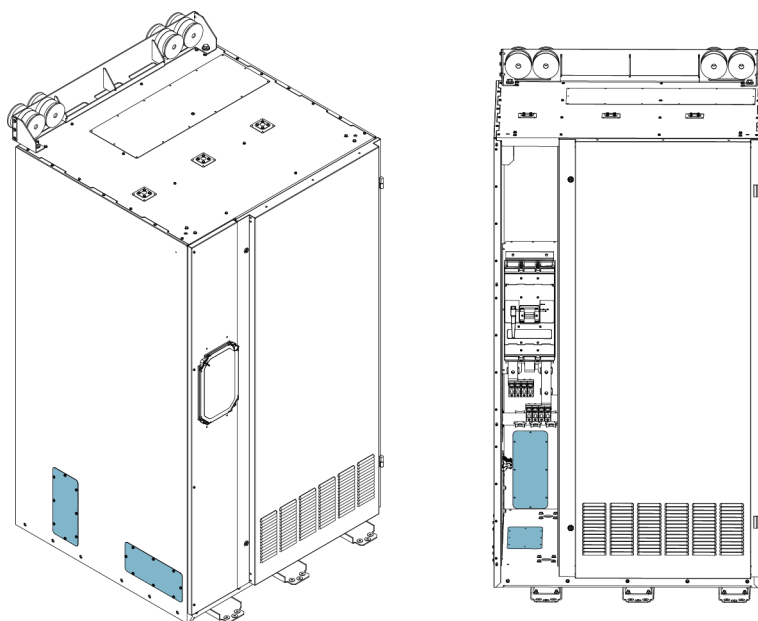

Figure 6. Battery cabinet through holes 2
- through the left side panel (see Figure 6)
- through the back wall (see Figure 6)
- through the bottom (see Figure 6)